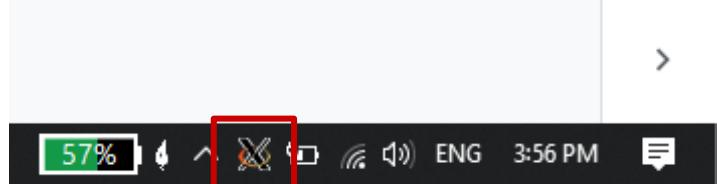

Figure 7. XLaunch display server
3. An XLaunch display server should now be visible in your toolbar as shown in Figure 7.